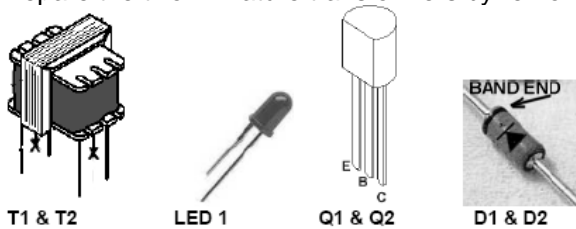

Figure 1. DO NOT REMOVE the 2 outside wires. The two *outside* wires on each side of the transformer are the primary and secondary windings.
- (1) Install the fixed resistor at location R1 (750 ohm Violet, Green, Brown)
- (2) Install the fixed resistor at location R3 (750 ohm Violet, Green, Brown)
- (3) Install (2) Diodes at locations D1 and D2, *making sure the banded ends are toward T1 location.*
- (4) Install (2) transistors 2N2222 at locations Q1 and Q2. Be sure to orient each transistor as shown by outline on the PC board. Q1 has flat side facing the right side of the PCB, and Q2 has the flat side facing the left side of the PC Board, See the photo.
- (5) Install LED1. **DO NOT CUT OR SHORTEN THE LED WIRES !** The longer of the two LED wires is inserted into the hole nearest T1. Install so the tip (top) of the LED is 5/8 of an inch above the PC board surface. Prepare the two miniature transformers by removing *only the center wire (X)* from each side of the transformer, Fig 1.